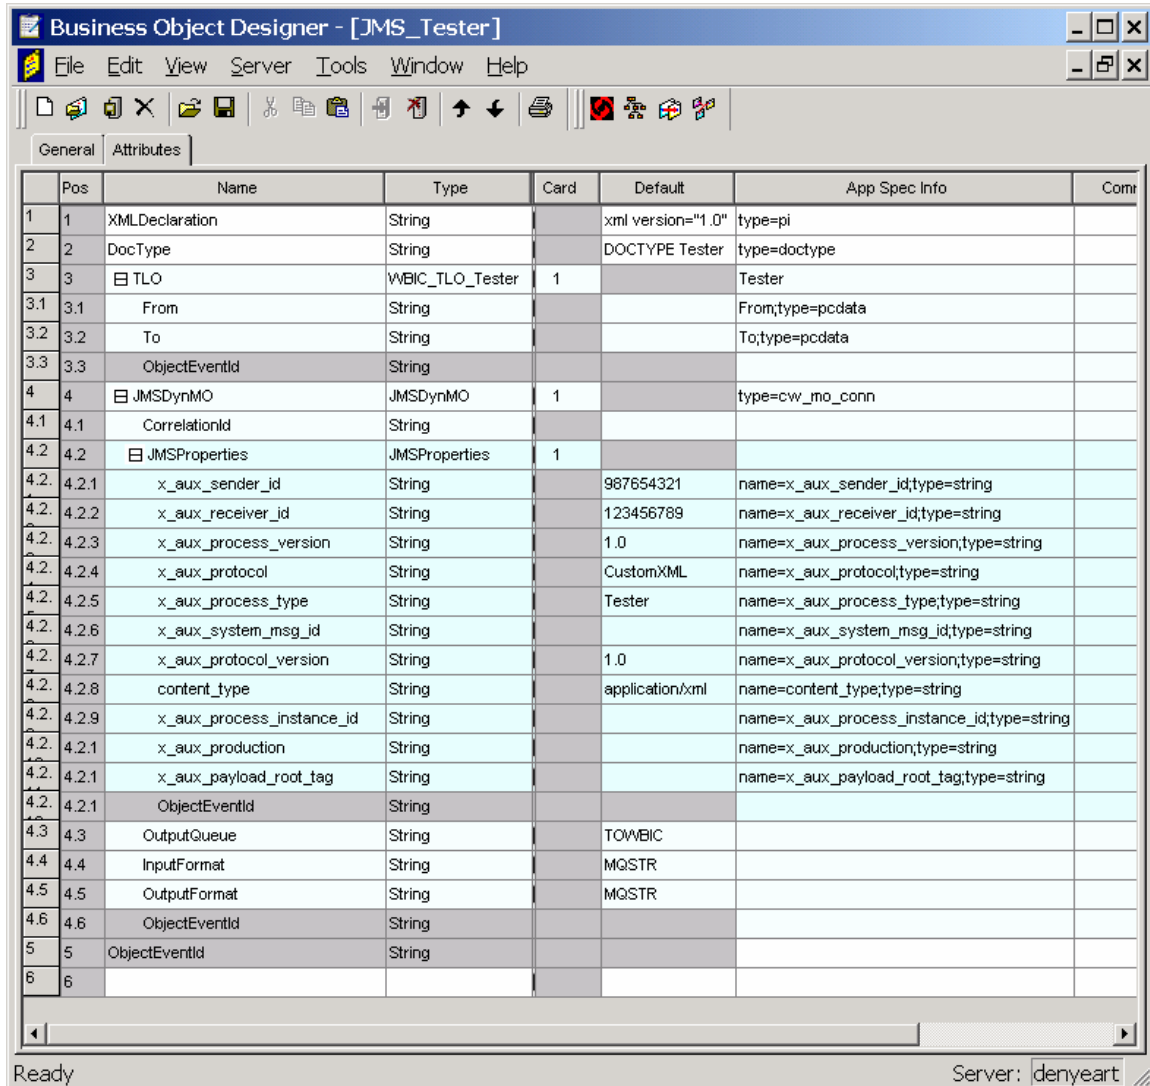

Figure 13. Sample JMS adapter XML business object
3. Modify the business object that represents the document to be traded so that it utilizes a JMS dynamic meta-object instead of the TPI route-info meta-object. See Figure 12 and Figure 13 for samples of a business object for the TPI adapter and the equivalent business object for the JMS adapter.